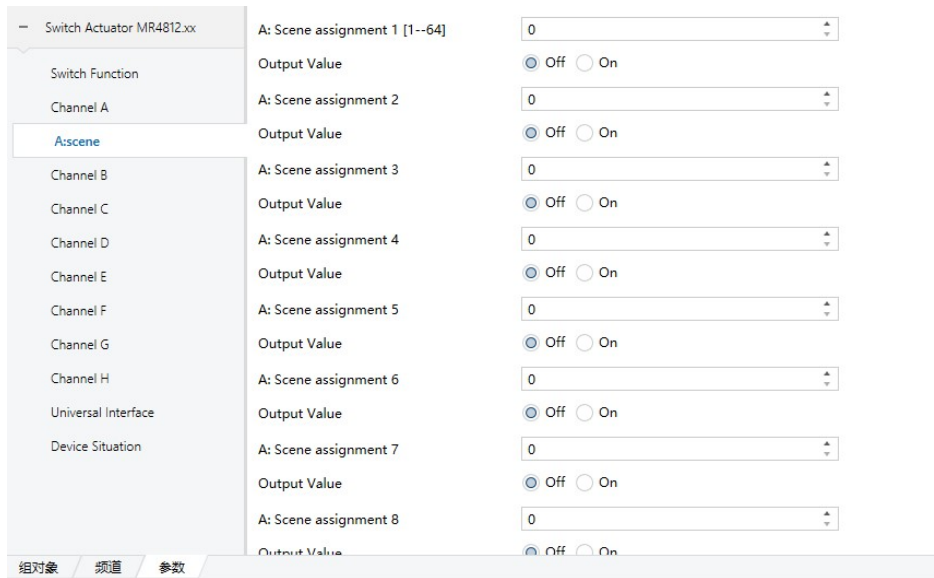

Figure 6.1.4
8-bit scene control	Scene control function, optional options: Enabled, Disabled, when "Enabled" is selected, the "scene" option will appear on the corresponding channel on the left side of the interface, click "scene", and the interface will switch as shown in Figure 6.1.4. In the interface, ① parameter "Overwrite values stored in the device during ETS download" is to overwrite the scene values stored in the device during ETS download, options: Overwrite, Not rewrite; ② parameter "Scene assignment 1-64" indicates the value of the scene number Setting, the scene number can be set from 1 to 64; ③ The parameter "Output Value" indicates the output value of the channel operation corresponding to the scene number, and the options are: On, Off; ④ The parameter "Storage value for Scene assignment X" indicates the scene with the scene number X Learning function, (X:1~64), options: No, Yes, (for example: Channel 1 and Channel 2 select "1" in the parameter
8-bit scene control	Scene control function, optional options: Enabled, Disabled, when "Enabled" is selected, the "scene" option will appear on the corresponding channel on the left side of the interface, click "scene", and the interface will switch as shown in Figure 6.1.4. In the interface, ① parameter "Overwrite values stored in the device during ETS download" is to overwrite the scene values stored in the device during ETS download, options: Overwrite, Not rewrite; ② parameter "Scene assignment 1-64" indicates the value of the scene number Setting, the scene number can be set from 1 to 64; ③ The parameter "Output Value" indicates the output value of the channel operation corresponding to the scene number, and the options are: On, Off; ④ The parameter "Storage value for Scene assignment X" indicates the scene with the scene number X Learning function, (X:1~64), options: No, Yes, (for example: Channel 1 and Channel 2 select "1" in the parameter "Scene assignment 1[1-64]", "Storage value for Scene assignment 1 When "Yes" is selected, the communication object takes the group address 3/1/1 as an example. After the data download is completed, manually operate CH1 and CH2 on the execution module to be On (open), and then "diagnose" on the ETS. , enter the group address 3/1/1, then select "Learn" in "Value", select "1" for the scene number, and send it on the bus, then the scene number "1" will learn actuator CH1 and CH2 On (open) status is complete.)
8-bit scene control	scene control function, options: Enable, Disable, when "Enable" is selected, "scene" will appear in the corresponding channel on the left side of the interface. Click "scene" and the interface will be switched as shown in figure 6.1.4. In the interface "Scene assignment 1-8" represents the setting of the scene number, which can be set to 1-64, and "Output Value" represents the channel operation corresponding to the scene number, which can be filled in as "On" and "Off".